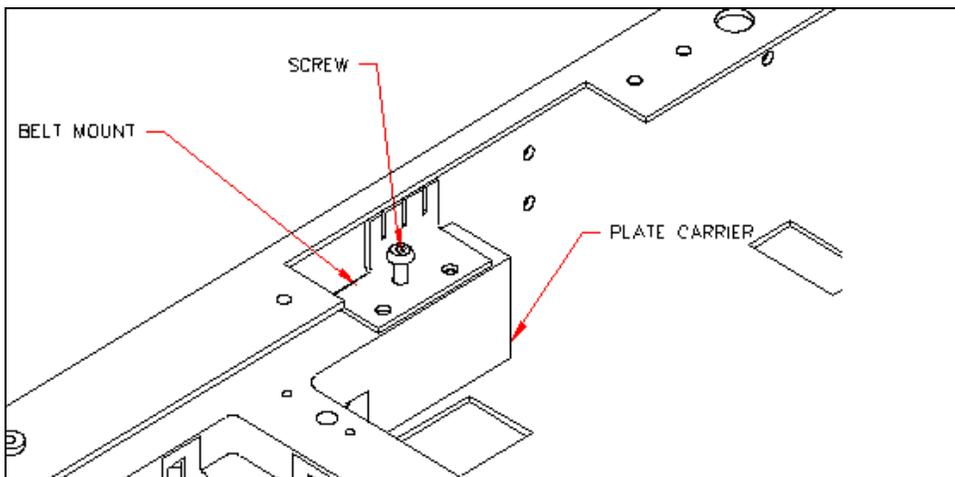

Figure 9-15 Belt Mount
To remove the drive belt, loosen the 3 M3 x 6 mm Button Head Screws that attach the belt mount to the plate carrier assembly (Figure 9-15).
- 2 Attach the belt mount assembly to the Plate Carrier Assembly (Figure 9-15).